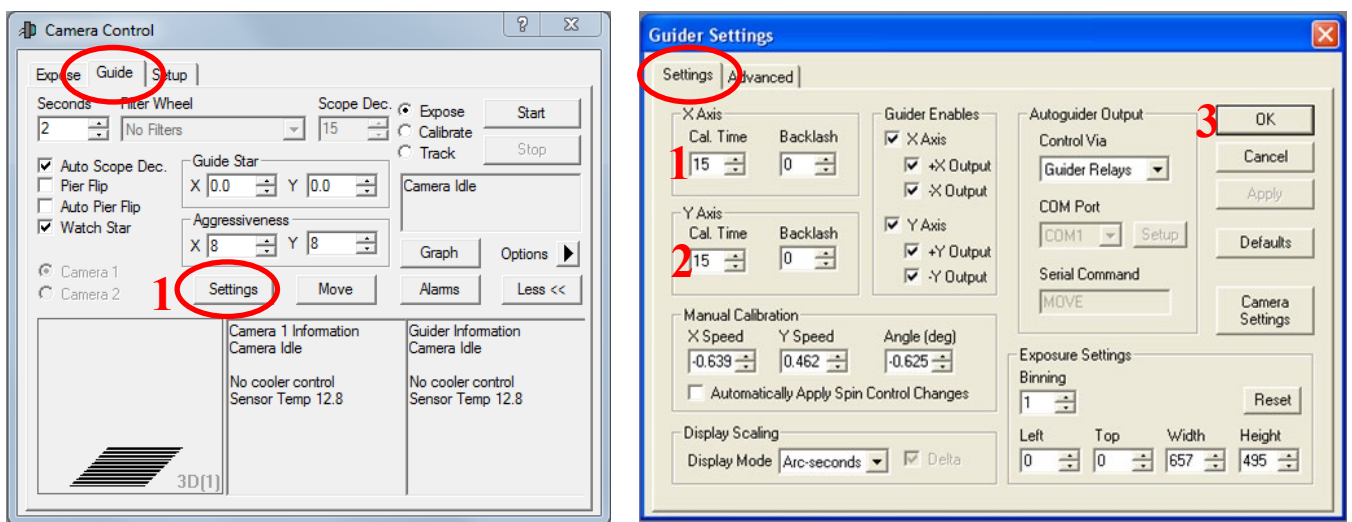

Fig. 8.7. Left: Guide control window. Right: Guider settings window and the changing of the calculation time of the A/G in the MaxIm DL software.
1. On the “Guide” tab, click on the “Settings” button (Fig. 8.7 left No 1). The “Guider Settings” window opens (Fig. 8.7 right) by default in the “Settings” menu.
2. Increase by a step of 5 sec the “Cal. Time” on both axes (Fig. 8.7 right No 1-2). Press “OK” (Fig. 8.7 right No 3). The window closes.